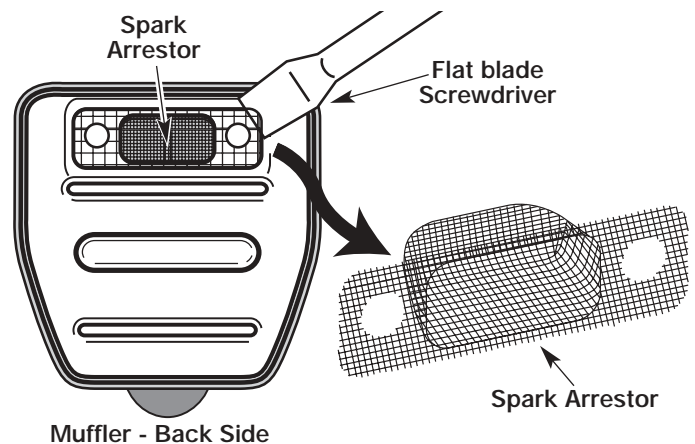

Figure 32
4. Using a small flatblade screwdriver, carefully pry up the spark arrestor from the recessed hole. See Figure 32. Remove the spark arrestor from the muffler.
5. Clean the spark arrestor with a wire brush. Replace it if it is damaged or if it is impossible to clean thoroughly. See Figure 32.